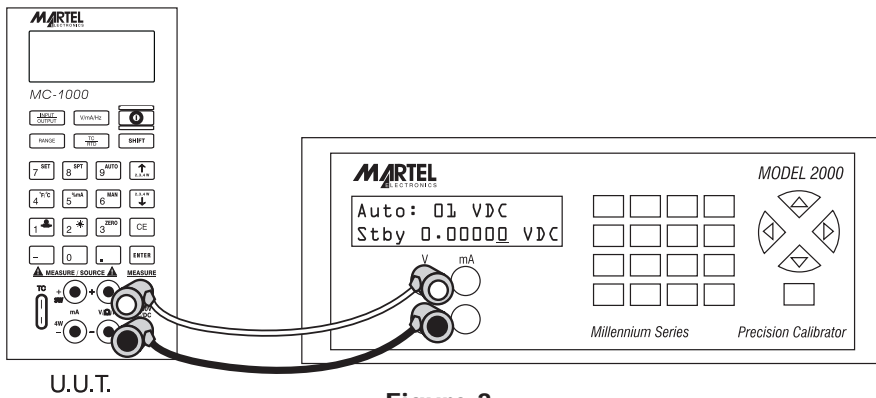

Figure 3
2. Connect the unit under test (UUT) to the voltage output jacks of the M2000. See figure 3.